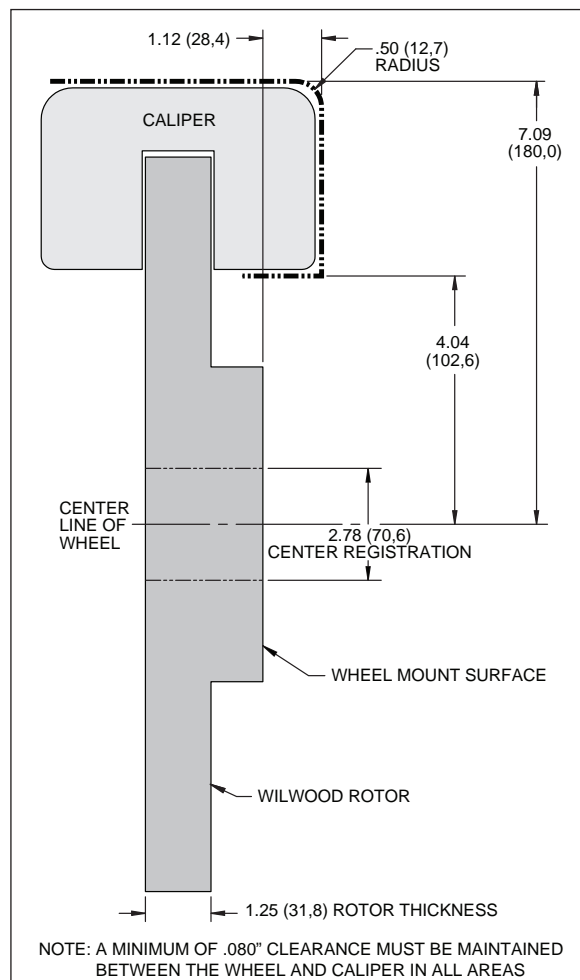

Figure 2. Wheel Clearance Diagram
- Review the wheel clearance diagram (figure 2, page 3) to verify that there is adequate clearance with the wheels you will be using with the installation.
•Verify your wheel clearance using figure 2.